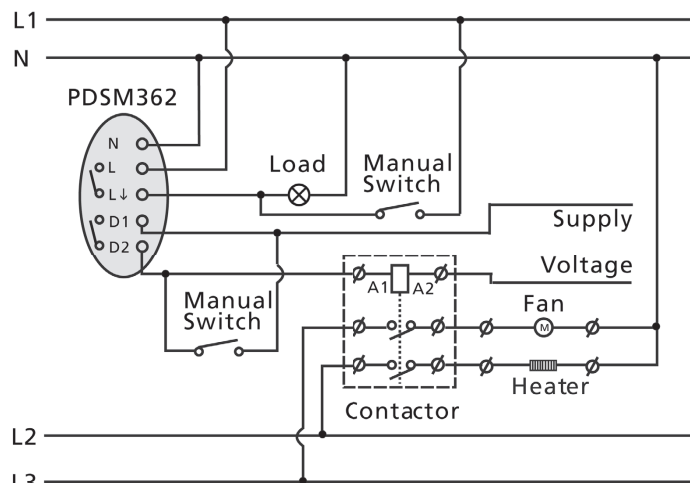

Fig. 3
3.2.1 Lighting and HVAC are controlled by one PDSM362 (see Fig.3).